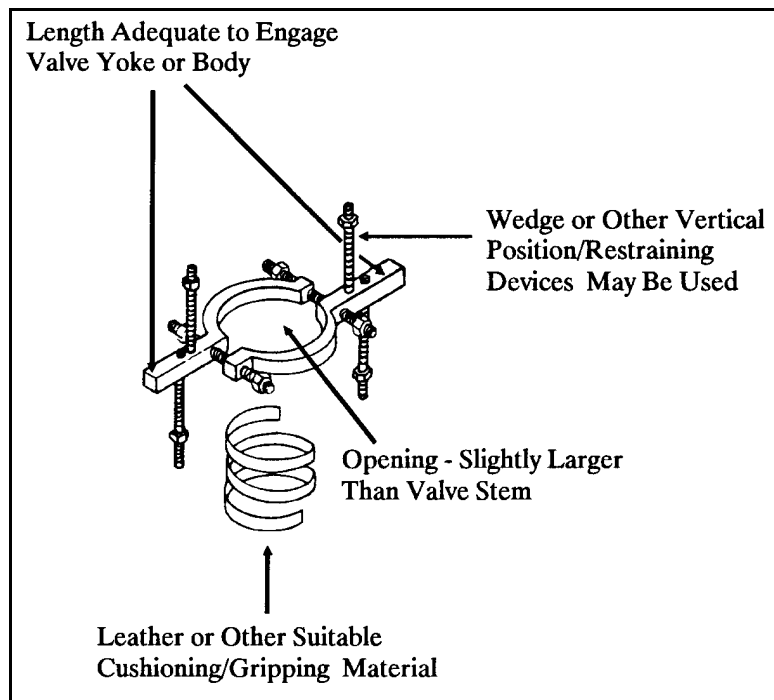

Figure 4-5 Typical Stem Clamping Device
5. Fabricate, as necessary, any valve stem-locking devices. (Figure 4-5)
15. Install a valve stem clamp (Figure 4-5), if required, to lock the valve in the desired position.